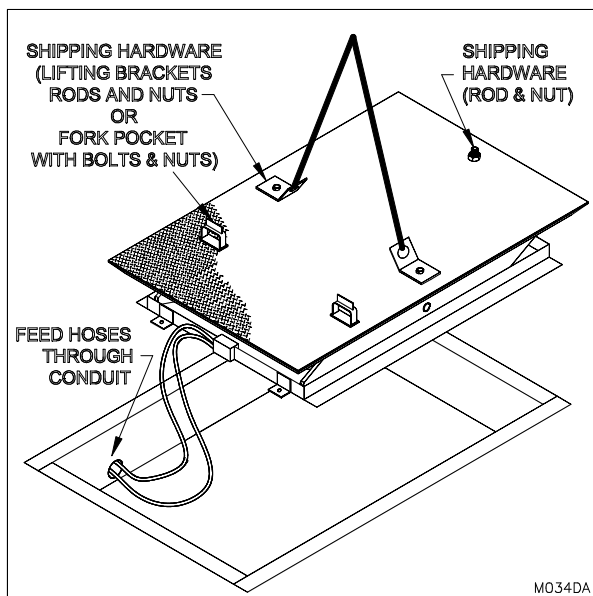

Figure 3: Moving the Dock Lift
7. Prior to hoisting the dock lift into the pit. Review and confirm all hoisting warnings and that hoisting equipment is of the appropriate capacity. Hoist the dock lift into the pit. At the same time, feed the hydraulic hose through the conduit from inside the pit toward the power unit. (See "Figure 3: Moving the Dock Lift" on page 5)
9. Square the dock lift platform in the pit, leaving approximately 1" space all around the pit edge. Remove all shipping bolts and hardware. (See “Figure 3: Moving the Dock Lift” on page 5).